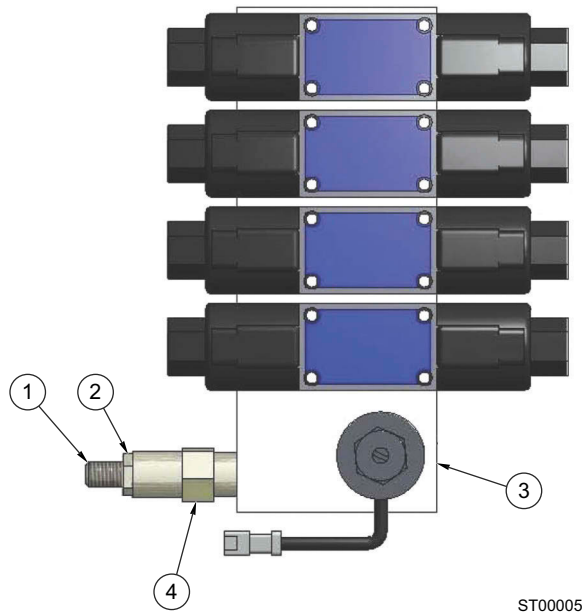

Figure 3-1.
1. Locate pressure gauge in the near the front bottom side of valve manifold (Figure 3-1, Item 3).
4. Loosen jam nut (Figure 3-1, Item 2) on the relief valve (Figure 3-1, Item 4).
5. Turn relief valve screw clockwise (Figure 3-1, Item 1) if hydraulic system relief pressure needs to be increased, or counterclockwise if hydraulic system relief pressure needs to be decreased.
6. Tighten jam nut (Figure 3-1, Item 2) on relief valve (Figure 3-1, Item 4).